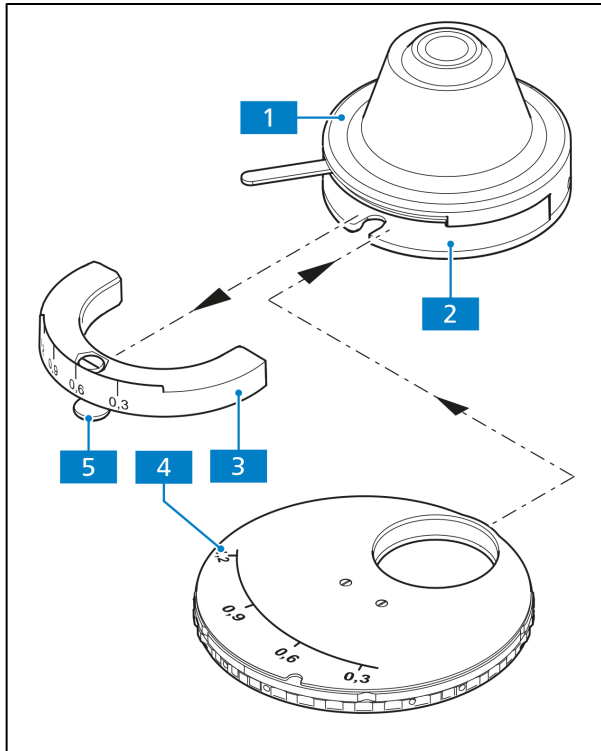

Fig. 3-48 Inserting the modulator disk in the 0.9/1.25 H condenser
- Remove the condenser (Fig. 3-48/1) from the condenser carrier (see section 3.1.13).
- Loosen the clamping screw (Fig. 3-48/5) of the condenser's dial segment (Fig. 3-48/3) with the Allen wrench (AF 3) and pull out the dial segment.
- Slide the modulator disk (Fig. 3-48/4) with its two-pronged forked opening pointing forward into the condenser. Make sure that the disk engages in the guide on both inner sides of the condenser. The guide serves as a stop for the modulator disk. The pin of the disk's clamping screw must slide into the orientation groove of the condenser.